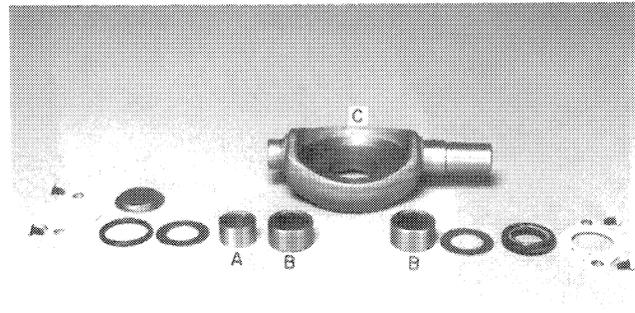

FIGURE 4-23
- e. Remove bearing race, A, and bearings, B, Figure 4-23. These can be easily removed by sliding cam plate, C, Figure 4-23, back and forth until the bearings can be grasped.
- f. Remove cam plate, C, Figure 4-23, by cocking the cam plate and sliding the short side of the cam plate out of the pump housing first. Figure 4-23 shows all the parts used on the cam plate.